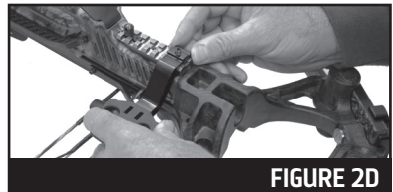

FIGURE 2D
- One (1) Quiver Bracket Screw
1. Slide the quiver bracket over the picatinny rail as shown in Figure 2D.